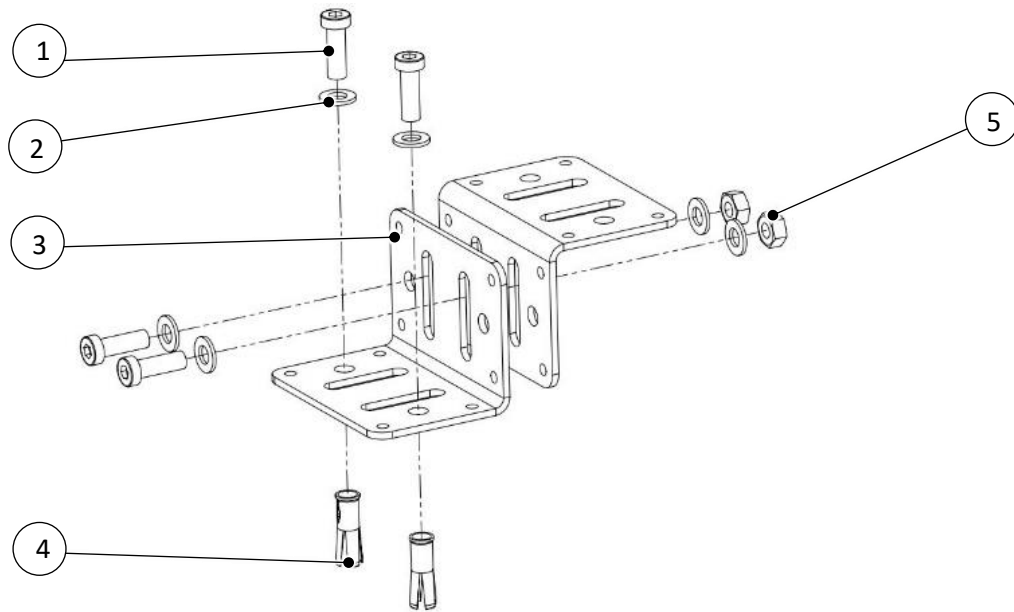

Fig. 5-3: Mounting set for anchoring the MRB to the floor:
- ▶ Anchor the MRB on both sides with the supplied corner brackets and screws (see Fig. 5.3).